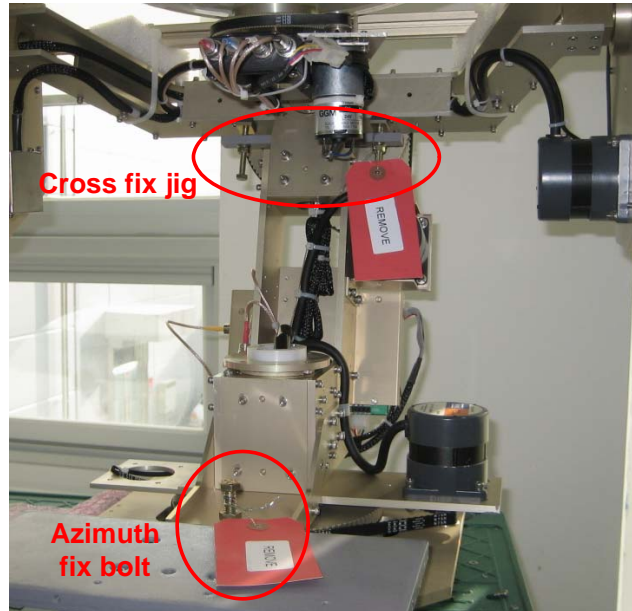

Figure 2-8 *Cross & Azimuth Fix Jig 1*
3. Remove the jigs and wire ties holding the Antenna. Please refer to Figures 2-8 and 2-9 below.